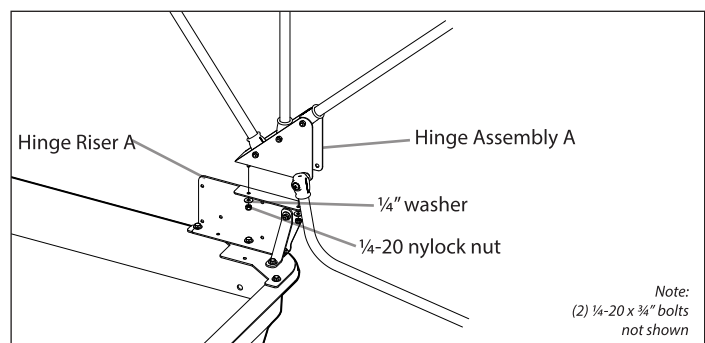

FIGURE 2
4. Attach the Hinge Assembly A (68141) to Hinge Riser A (68052) using (2) 1/4-20 X 3/4" bolts, (4) 1/4-20 nylock nuts and 1/4" washers. **SEE FIGURE 2**
5. Repeat step 3 on the opposite side using the Hinge Assembly B (68142). **SEE FIGURE 2**